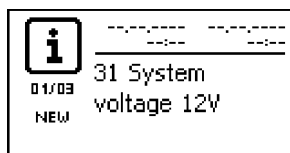

Fig. 3: Event message (English) with the detected system voltage (12 V in the example)
3.  Switch on the external battery fuse: Insert the fuse insert into the fuse holder (safety fuse) or switch on the DC line circuit breaker. The controller automatically starts operating, displays the company logo after a few seconds and then displays the detected system voltage in an event message (System voltage xx V) or RTC not set (Fig. 3).